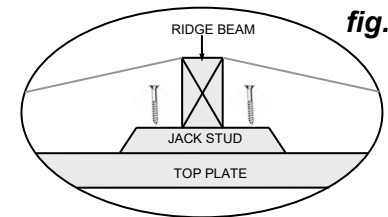

fig. 2
Use the 50mm Clouts only on ribs covered by flashings, shown on pg 13 fig.2. Pre-drill holes using a 3.5mm drill bit. Use Roofing Screws on all other ribs. Ensuring screws are not overtightened as this can damage the seals and cause the shed to leak.
- Secure with 2 x 75mm screws through the top of the Jack Studs into the Timber Top Plate (fig. 2).